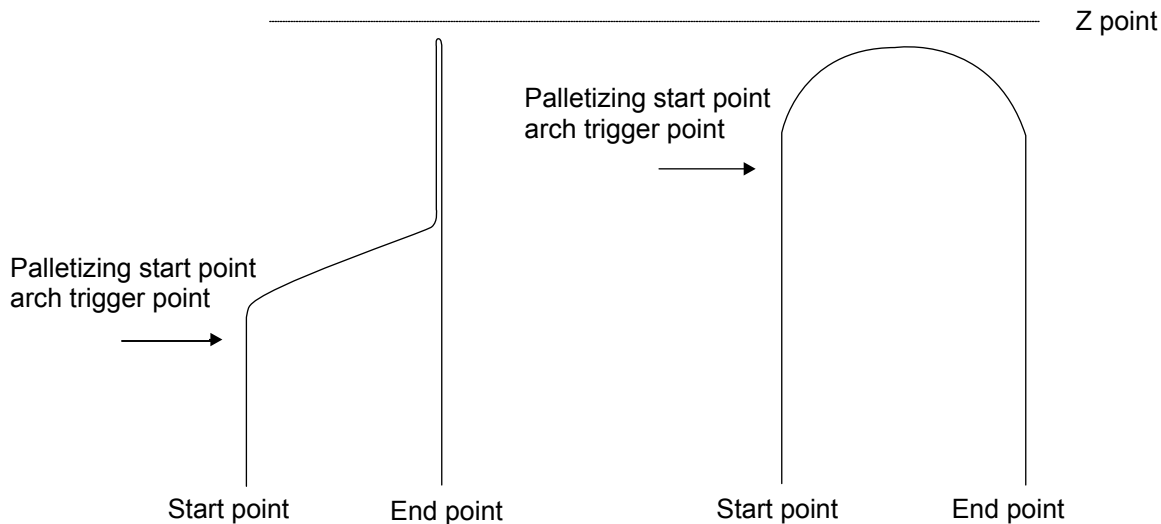

Fig. 5
- The arch motion Z-axis will come down after a rise process command value is output. Therefore, the operation may follow the locus in Fig. 5 given in the aforementioned explanation of PACH command, depending on the settings of arch-trigger points and Z point. In this case, change the arch triggers and Z point to increase the operation efficiency.